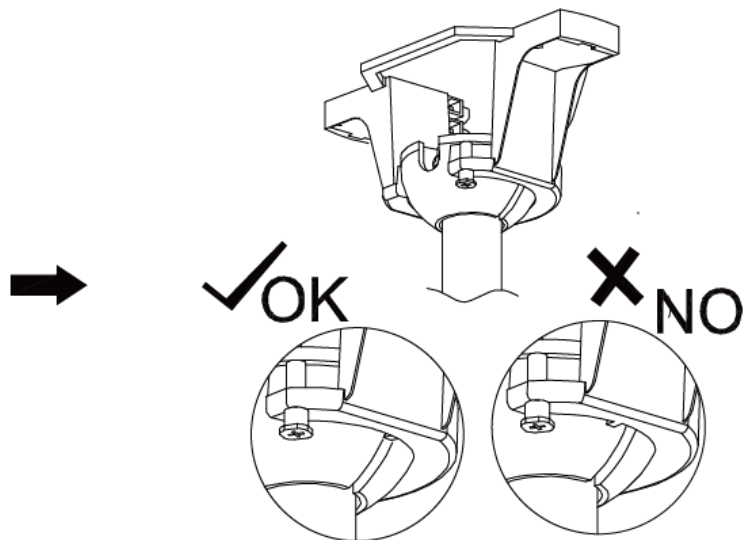

Fig. 7
- Ensure the notch of the ball joint is positioned on the stopper of the mounting bracket to prevent the fan from rotating when in operation. Fig. 7